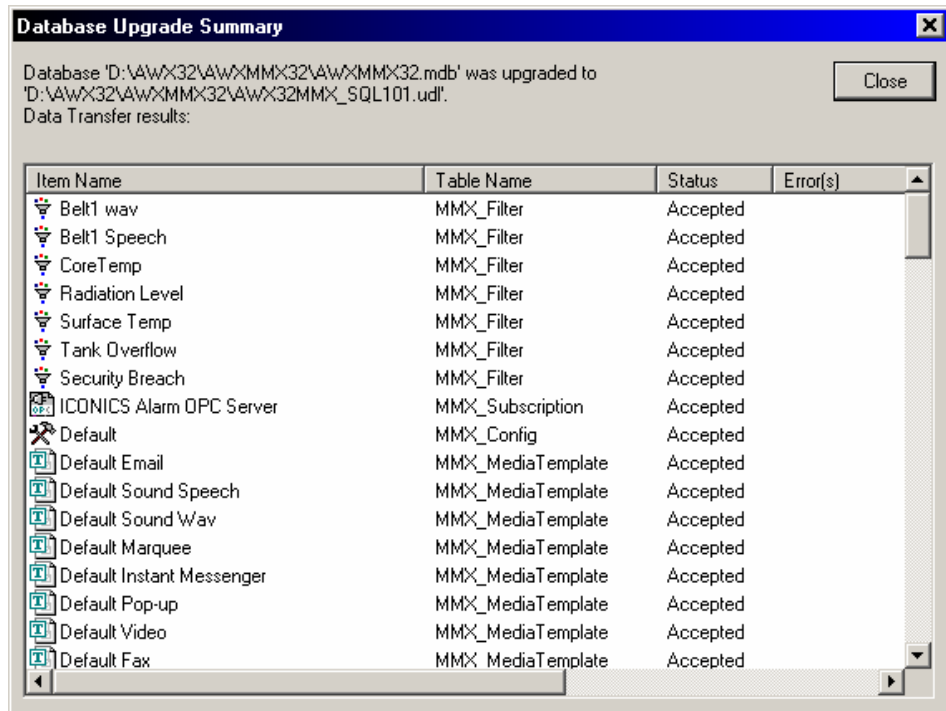

Figure 1.32. Database Upgrade Summary
- When you have finished creating the new SQL Server database, the Database Upgrade Summary appears, as shown in **Figure 1.32**, and the database opens in the AlarmWorX Multimedia Configurator.